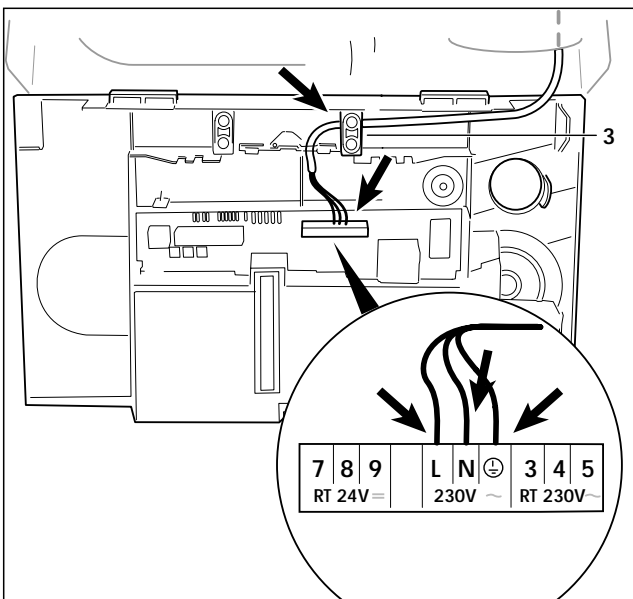

Fig. 5.10: Wiring system
- Unclip the terminal box cover (1) from the control panel (2).
- Feed the power supply cord in to the appliance as shown (Fig 5.10).